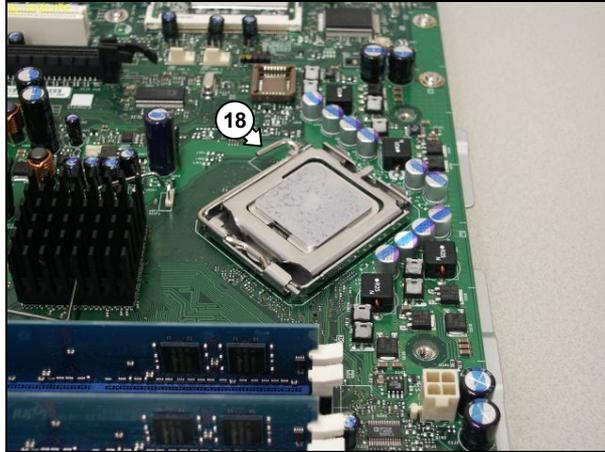

Figure 12.15-9
2. Release the CPU mounting clamp (18). See Figure 12.15-9.